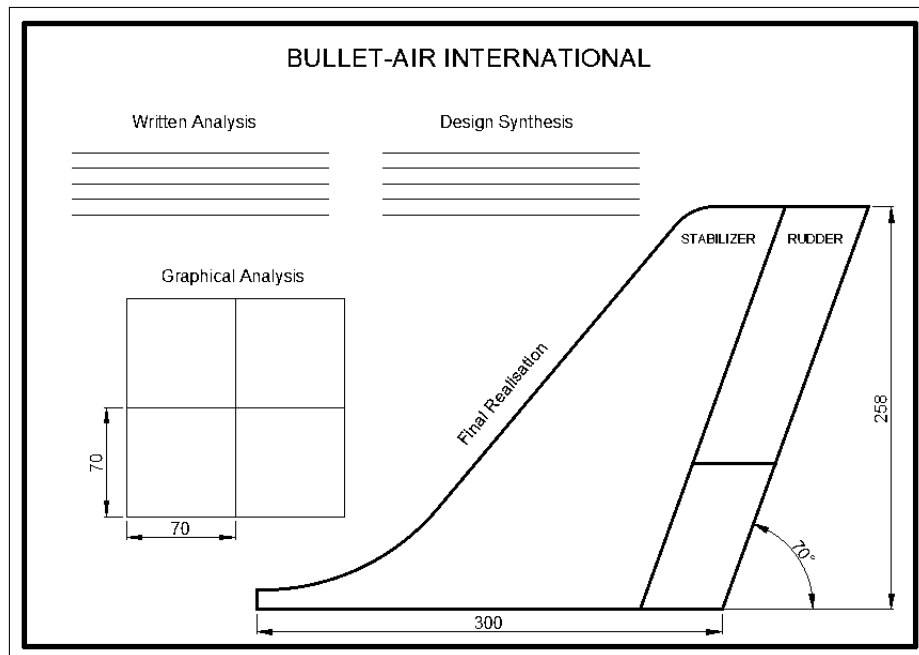

Figure 4
You have been commissioned to design this Logo, which needs to include the name of the company. You need to present your work broken down according to the following steps and as shown in Figure 4.
- a. Written analysis. Identify, using keywords/short phrases, the main parameters of the design brief. (2)
- b. Graphical analysis. Based on your response to the written analysis, produce a series of preparatory sketches that illustrate your developing ideas. (4)
- c. Design synthesis. Clearly identify those elements produced in your sketches that you intend to use in your final design. (2)
- d. Final realisation. Use colour and shading to produce your final realisation in the space shown in Figure 4. (14)
- Details of the page layout are given in Figure 4. Dimensions not given are left to your discretion.